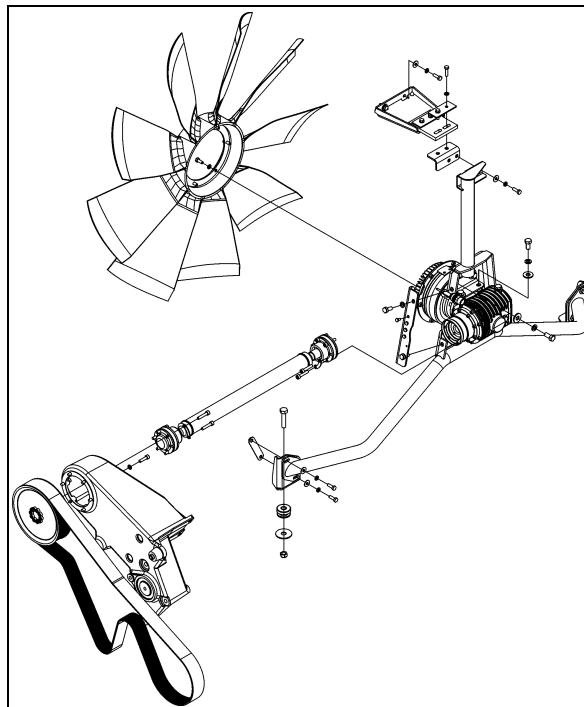

**FIGURE 18: REMOVAL OF THE RADIATOR & THE CHARGE AIR COOLER**
11. From under the vehicle, unscrew bolts securing the radiator & charge air cooler assembly to the vehicle (see fig. 18).